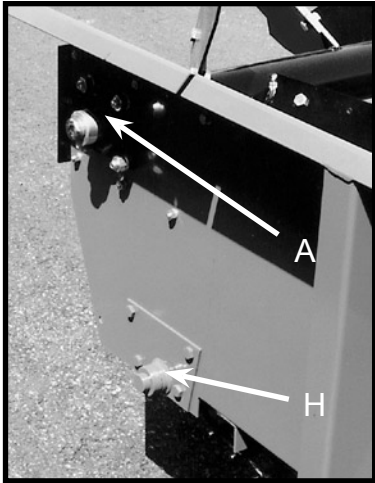

Figure 17-1
- H. Apron shaft bearings (125 & 175 only). Figure 17-1